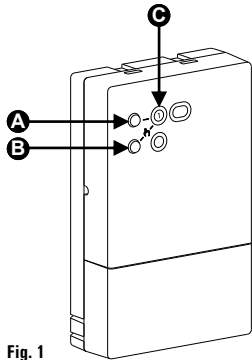

Fig. 1
LED (C in Fig. 1)
SELF-LEARNING BUTTON (A in Fig. 1)
MANUAL DRIVE BUTTON (B in Fig. 1)
- Press the self-learning button for a second **A** of Fig.1. The self-learning procedure is started: the receiver's LED will blink quickly yellow.